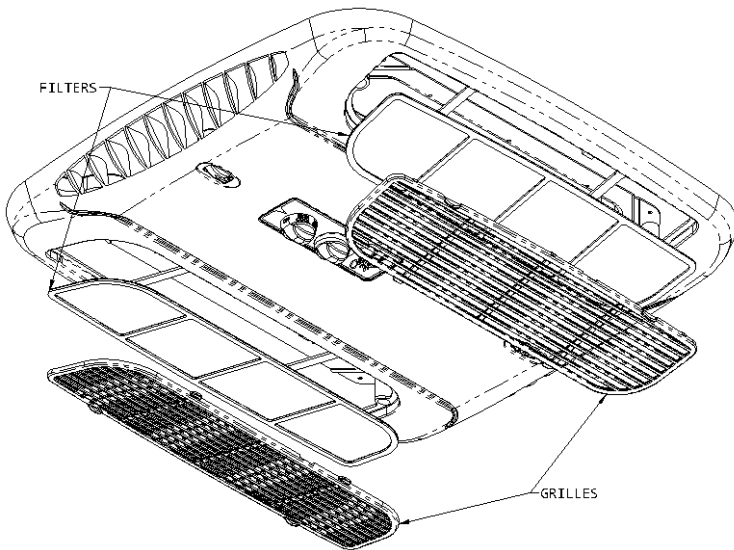

FIGURE 2
3. Re-install the filters and grilles in the ceiling assembly as shown in Figure 2.
6. Using 2 self-drilling screws and gasketed washers, run the screws down through the mounting braces, through the spacers and into the vehicle roof. Tighten screws just until the spacers pull down to the roof. Thread the remaining screws with gasketed washers through the bulkhead flange holes and tighten until the unit gasket has been evenly compressed. Use care to NOT STRIP the screws. See Figure 2.